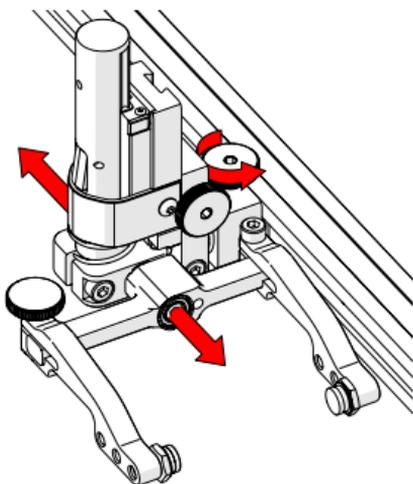

Fig. 64 - Adjust on frame bar
1. The probe holder adjustment knob allows the probe holder to be attached to a frame bar, as well as horizontal positioning on a frame bar (Fig. 64).